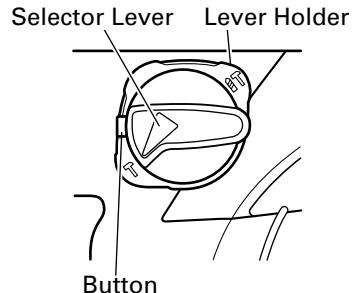

Fig. 8
(1) Switching to "hammering"
- (b) Align ▲ of the selector lever and T of the lever holder as illustrated in Fig. 8.